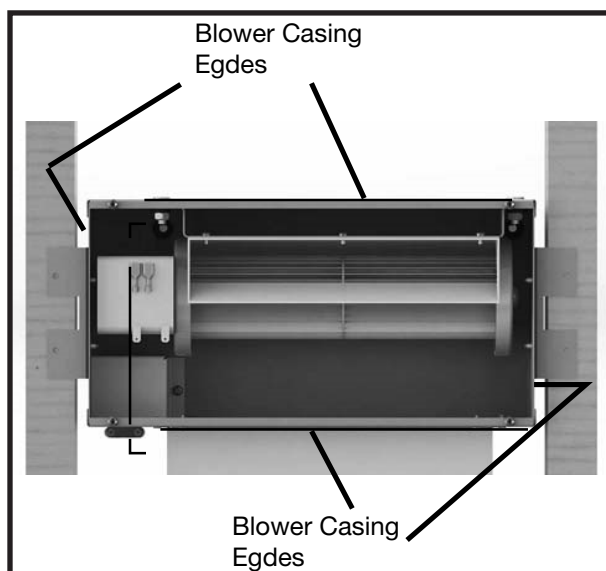

Figure 25: Blower details.
6. Attach the 10"(254) X 3 1/4"(83mm) Transition Boot to the Remote Blower Assembly and seal with aluminium duct tape. Run 6" diameter approved Type "B" flexible or ridged gas vent pipe (vent pipe is not include with this kit) between the blower and the fireplace. Fasten in place with screws and seal with aluminium foil tape.
9. Drywall and facing material must not cover the opening in the blower assembly. Remove the Face Plate. Cut the drywall so the edges butt up against the outside of the blower casing edges (Figure 25), top, bottom and sides.